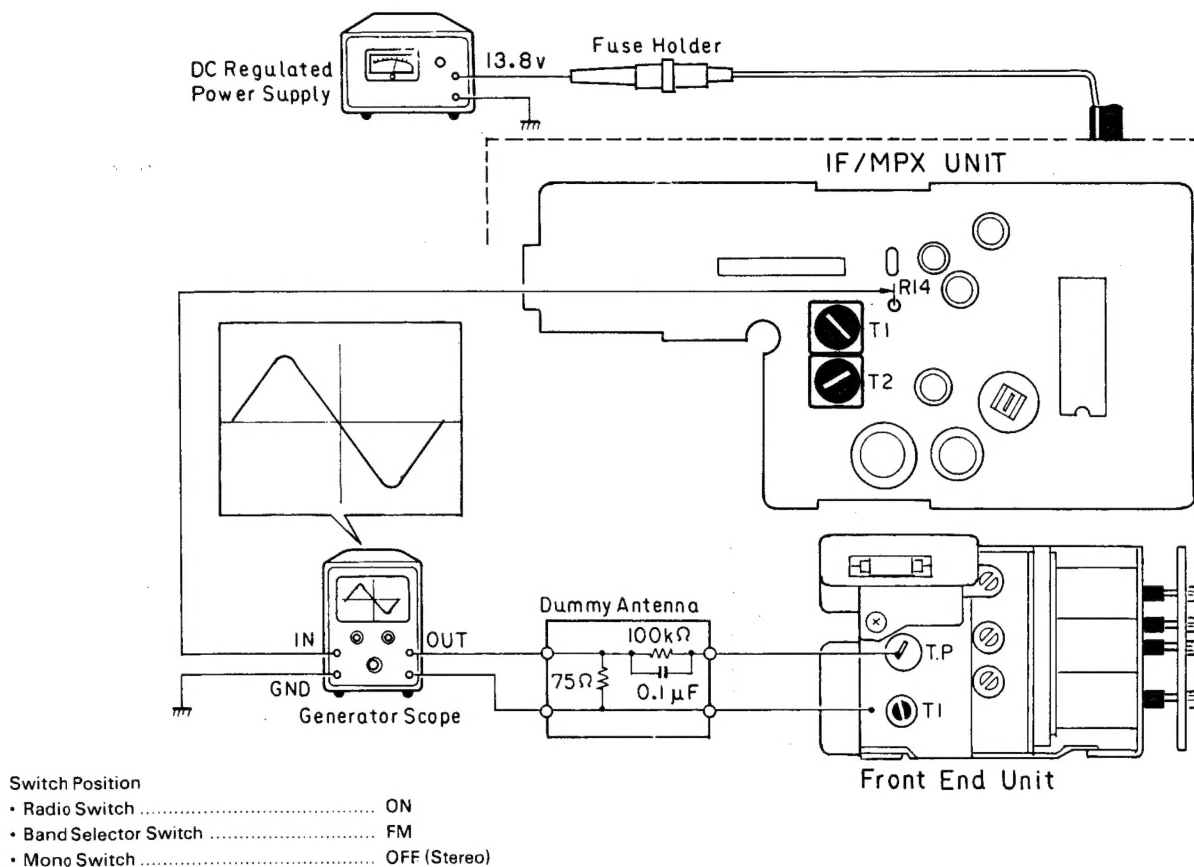

Fig. 7
- A waveform shown in Fig. 7 is obtained on the generator scope when the hook-up is made as illustrated above and the power source is applied to.